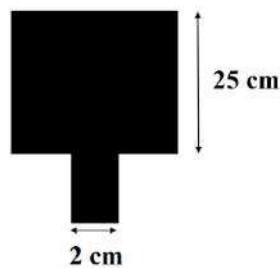

Figure 4: Start square
- The starting block will be a **25cm x 25cm black square** as shown in Figure 4.
- A solid black square similar to the starting block (*Figure 4*) will be used to signify the object pick-up area. The robot must detect the square pattern and pick up the box.